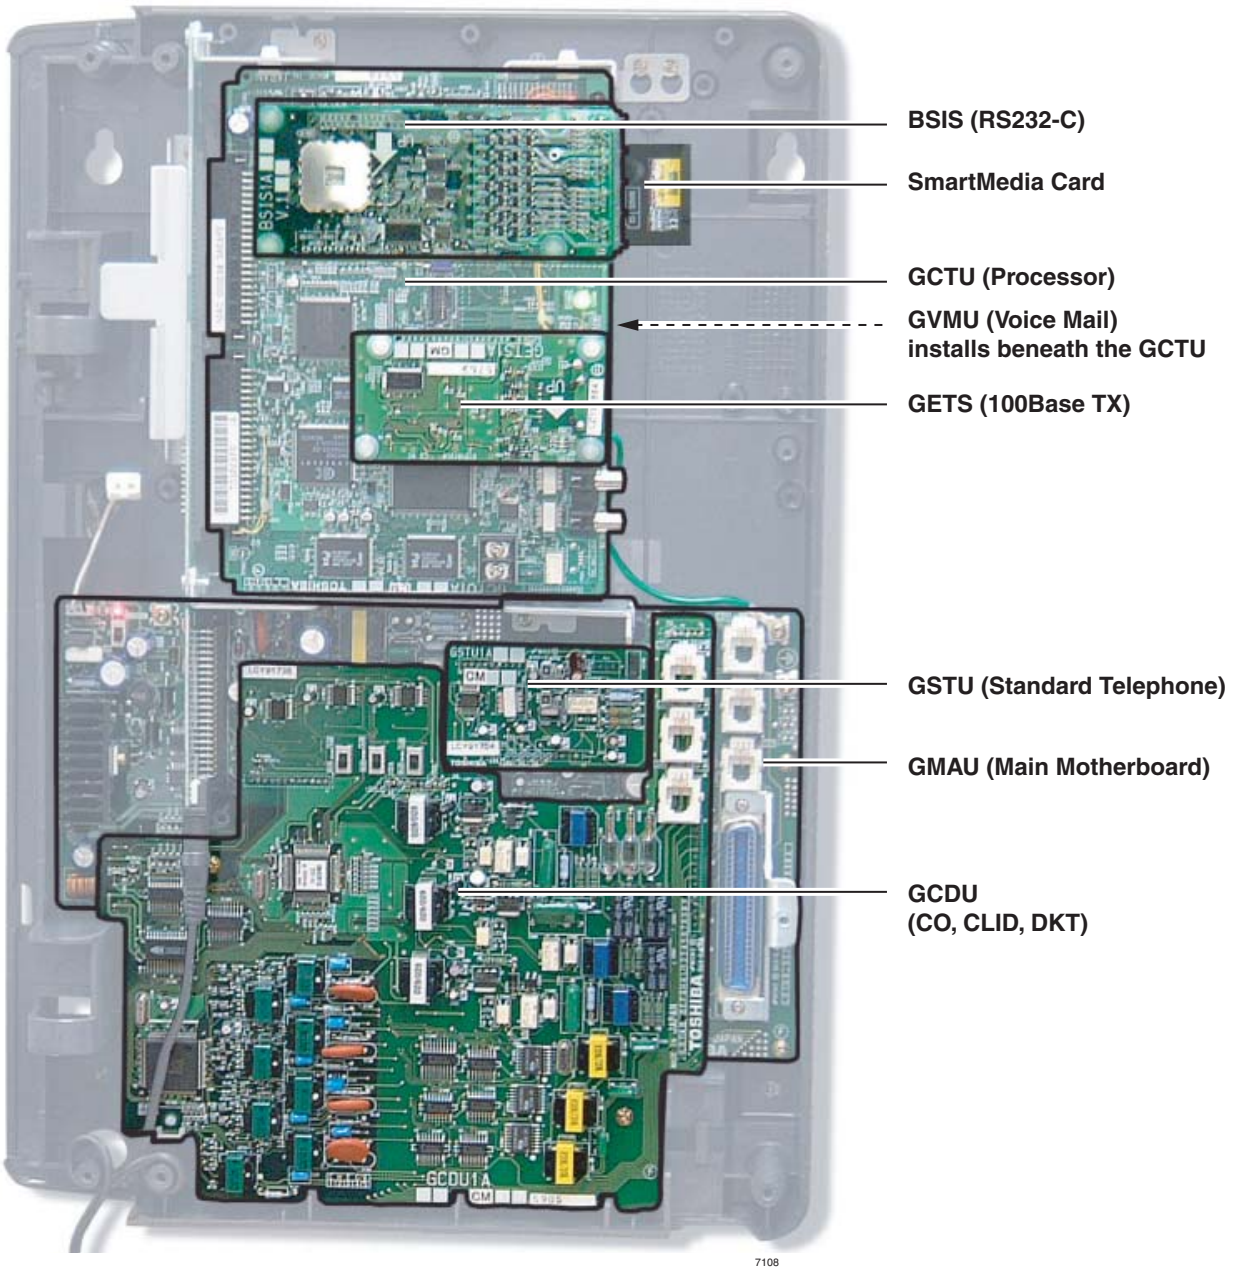
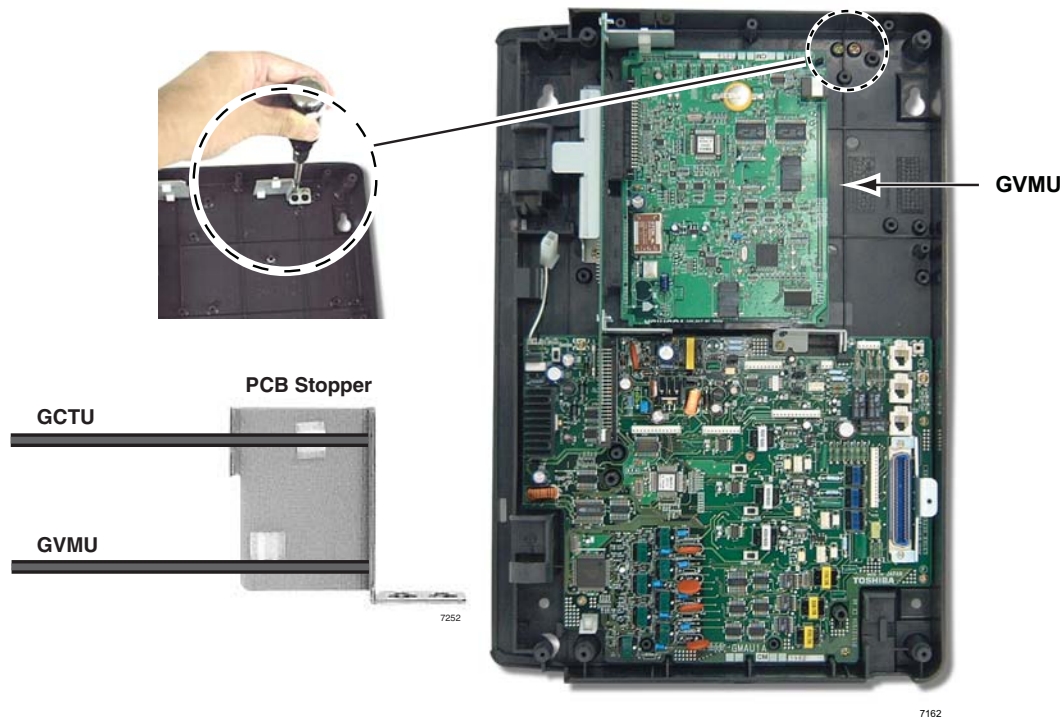
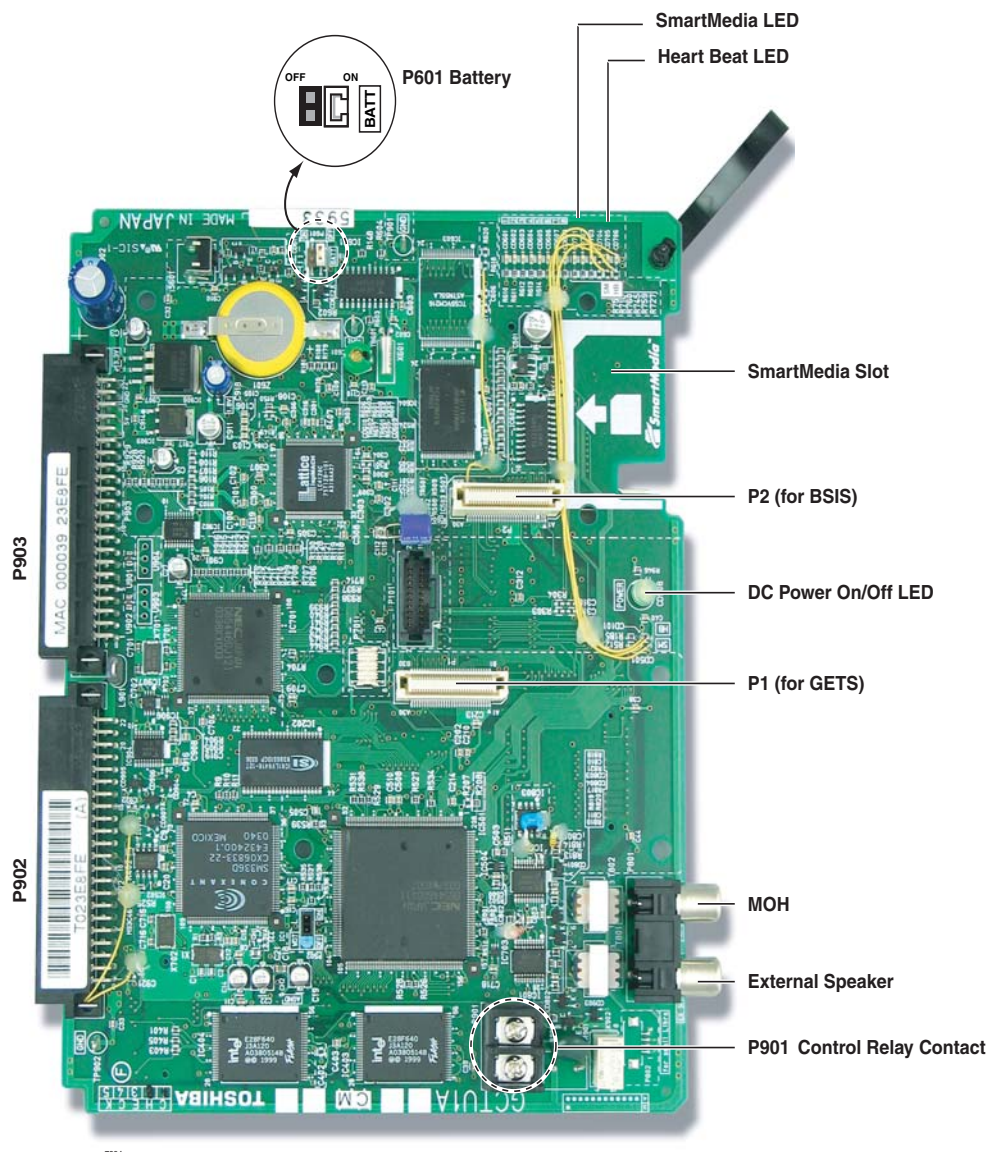

Figure 1-6 CTX28 Interior with PCBs
Figure 1-8 GVMU/GCTU PCB Stopper
Figure 1-10 GCTU PCB
2. If applicable, set SW6 battery jumper to ON and install the GVMU1A Voice Mail card (Figures 1-8 and 1-9).
3. Set P601 battery jumper to ON and install the GCTU1A (processor Figures 1-6 and 1-10).
7. If applicable, install the BSIS1A for SMDR (Figure 1-6).
This describes the CTX28 cabinet PCBs (see Table 1-3 and Figure 1-6.)
1. In the CTX28 cabinet, remove the two screws and the PCB stopper (Figure 1-8).
4. Install the GVMU into the lower slot of the GMAS (sub-motherboard) (see Figure 1-8).
1. Skip this step if you have installed a Voice Mail PCB and already removed the PCB stopper. If you have not done this, then in the CTX28 cabinet, remove the two screws and the PCB stopper (see Figure 1-8).
2. Set the P601 battery jumper to ON (see Figure 1-10) and insert the GCTU1A (shipped with the cabinet) in the upper slot of the GMAS sub-motherboard (see Figure 1-6). Place it next to the guide rail of the PCB stopper (see Figure 1-8).
4. Insert the SmartMedia card (gold contacts face left, notched corner faces forward and up) into the SmartMedia slot on the GCTU1A (see Figure 1-6).
- Carefully place the GCDU1A pins over the GMAU connectors (see Figure 1-6 and Figure 1-11). Press down on the PCB to secure the pins to the connectors (see Table 1-9).